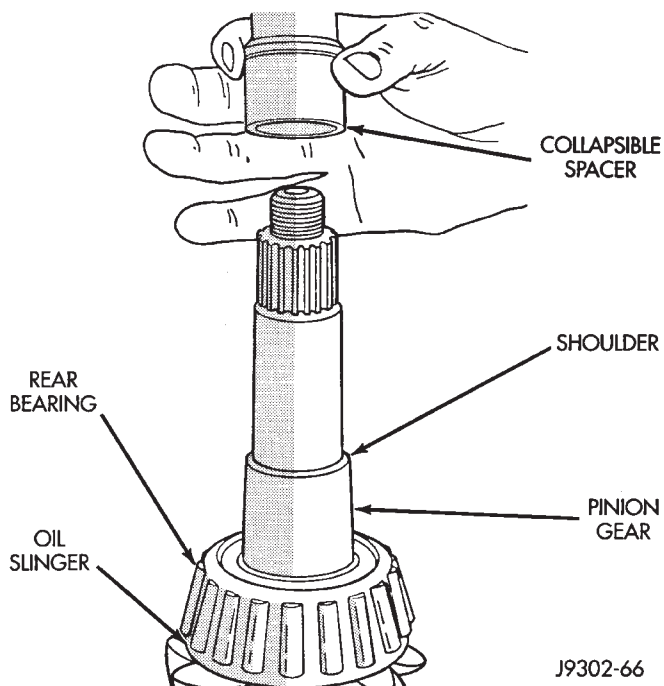

Fig. 34 Collapsible Preload Spacer
(10) Install a new collapsible preload spacer on pinion shaft and install pinion gear in housing (Fig. 34).
(11) Install pinion gear in housing.